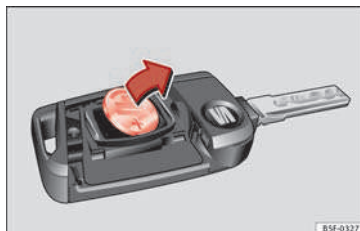

Fig. 117 Vehicle key: removing the battery.
- Extract the battery from the compartment using a suitable thin object **Fig. 117.**
- Place the new battery in the compartment as shown **Fig. 117**, pressing in the opposite direction to that shown by the arrow **Fig. 117.**